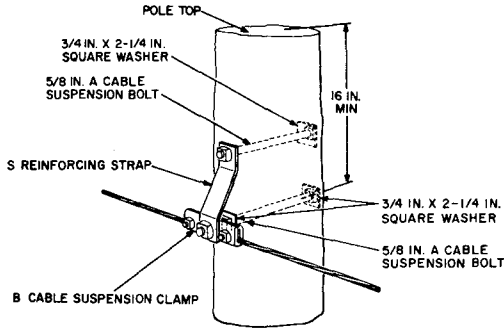

Fig. 15—Pole Attachment with Reinforcing Strap Attached with Cable Suspension Bolt
9.04 Attach suspension strand as illustrated in Fig. 15 where a cable suspension bolt is required to attach the reinforcing strap (6.07).